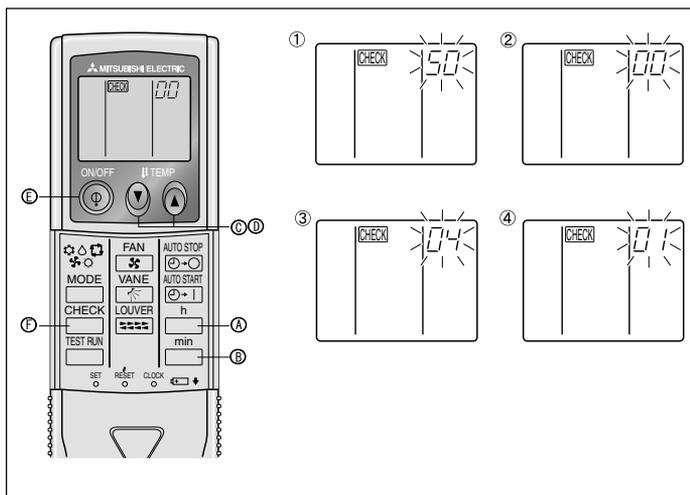

Fig. 6-10
⑧ Press the MODE button [] and mode and the setting number (1) and (2) will change to being on constantly and the contents of the setting can be confirmed.
⑨ Press the FILTER [] and TEST RUN [] buttons simultaneously for at least two seconds. The function selection screen will disappear momentarily and the air conditioner OFF display will appear.
2) For wireless remote controller (Fig. 6-10)